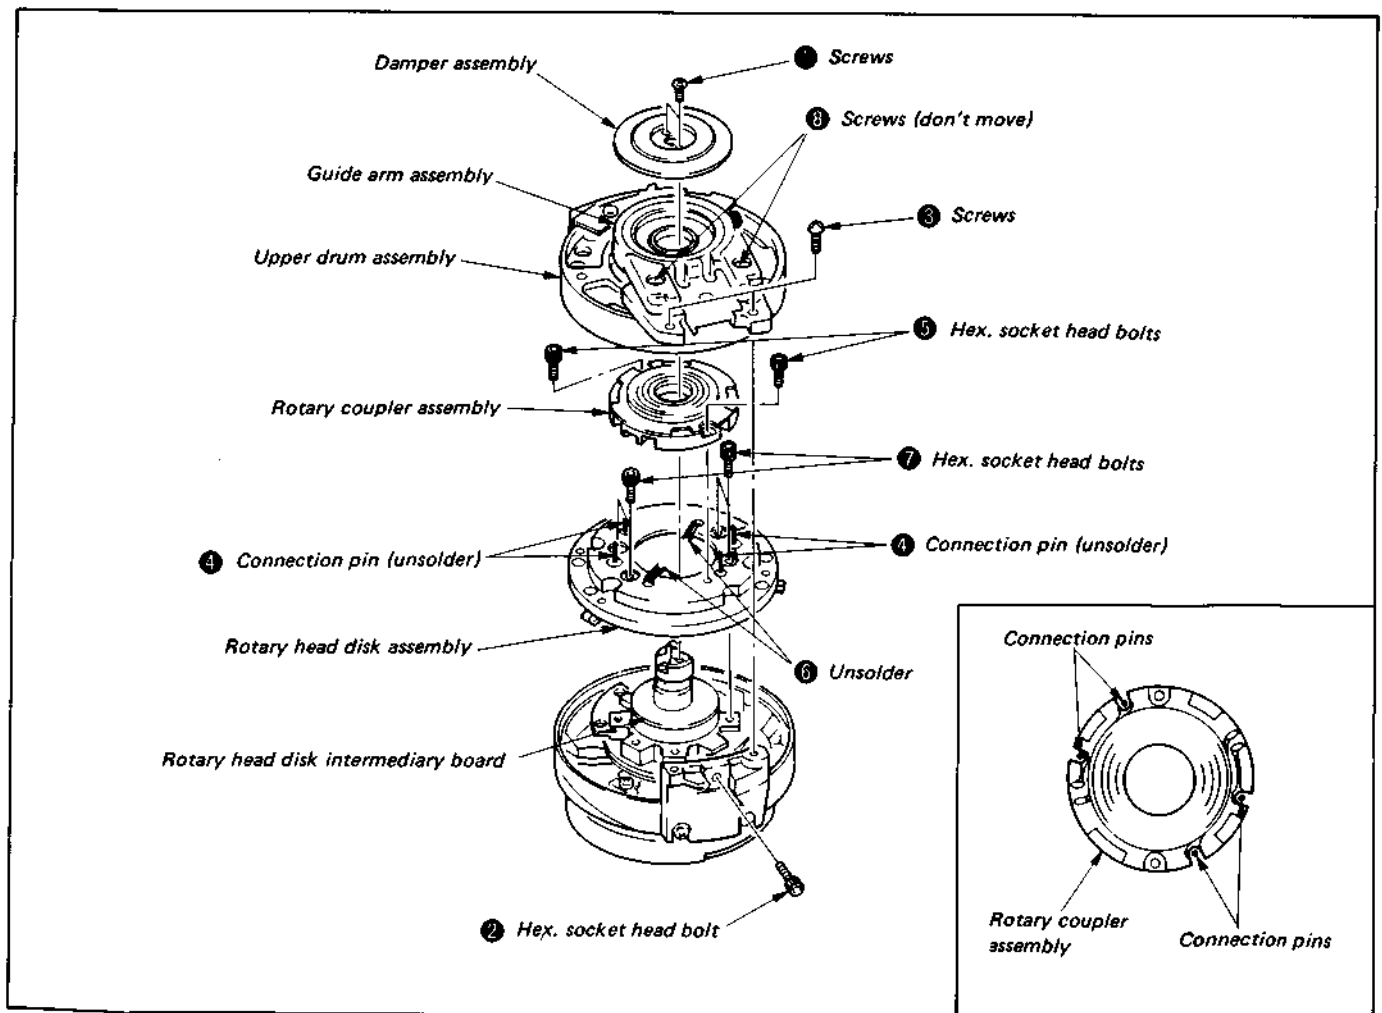
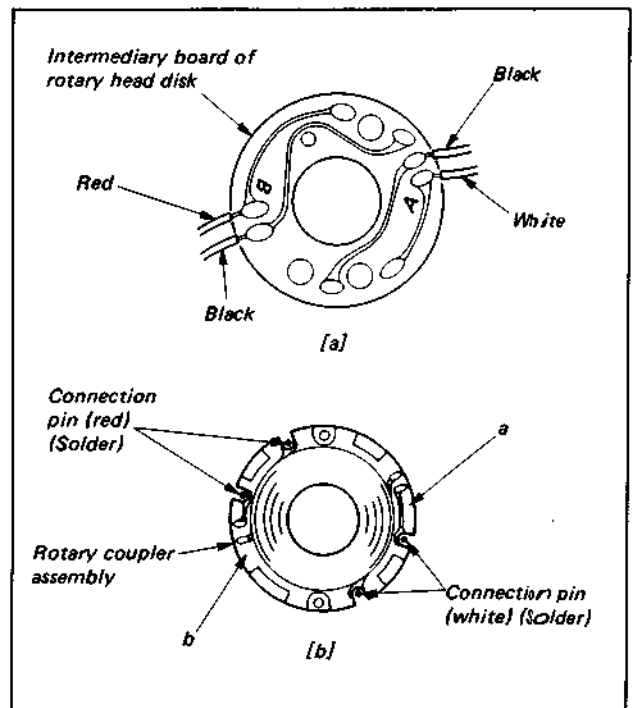

Fig. 3-3 How to remove rotary head disk
Fig. 3-6 How to refit rotary head disk (3)
(See Fig. 3-3)
- 5) Tighten four hex. socket head bolts ⑦ (see Fig. 3-3), and solder the leads to the head intermediary board of rotary head disk (See Fig. 3-6-a).
- 6) Refit the rotary coupler assembly, and tighten two hex. socket head bolts ⑤ (See Fig. 3-3).
Align A-a and B-b between the intermediary board of rotary head disk and the rotary coupler assembly (See Fig. 3-6).
- 7) Solder the four connection pins to the rotary coupler assembly (See Fig. 3-6-b).
- 8) Refit the upper drum assembly without moving the adjust plate, and lightly tighten screws ⑧ . Tighten hex. socket head bolt ② , and then, tighten screws ③ firmly (See Fig. 3-3).
- 10) Refit the damper assembly, and tighten screw ① (See Fig. 3-3).